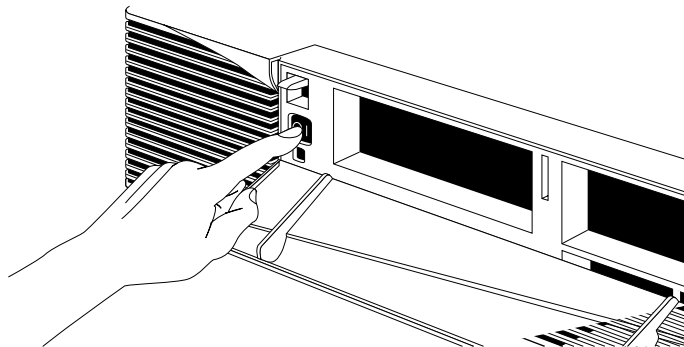

Figure 1-2 Turning off the System Power
1. Press and release the power switch, as shown in Figure 1-2.